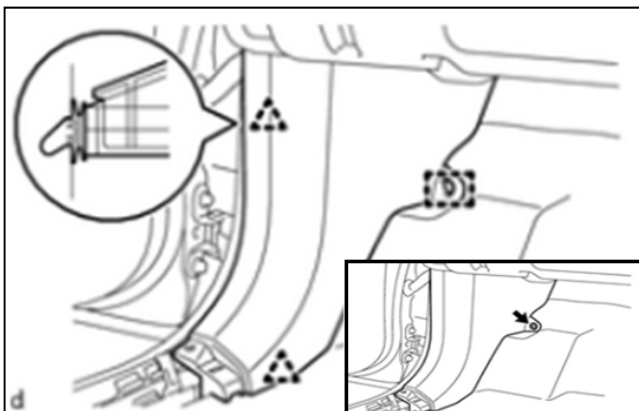

Figure 24
25. Engage the guide and 2 clips to install the cowl side trim board LH. Install the clip. See Figure 24.